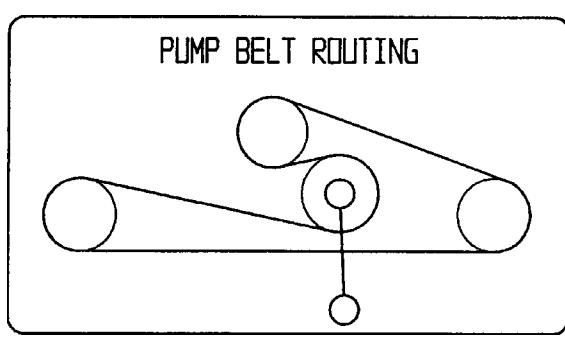

Figure 60
2. Install new belt around engine and hydro pump pulleys (Figure 60).
3. Pull spring loaded idler down and align below traction belt. Release the pressure on the spring loaded idler (Figure 60).